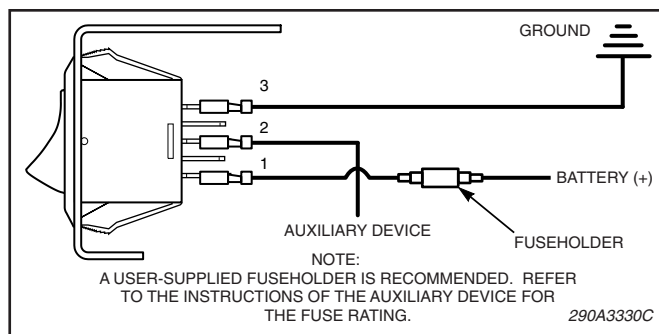

Figure 1.
5. See figure 1 for wiring instructions.